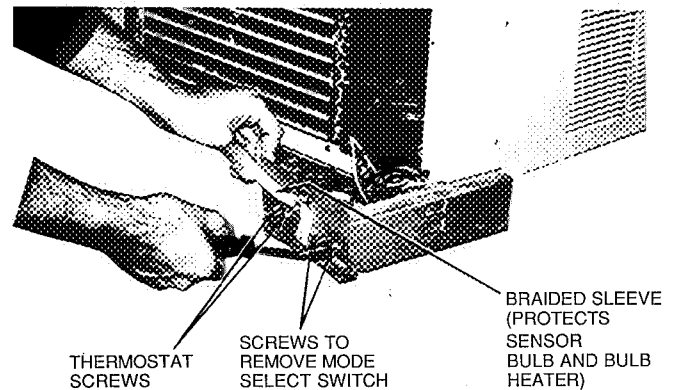

Fig. 11 – Removing Thermostat and Bulb Heater
2. Remove 2 screws holding mode switch control to control box. See Fig. 11.
2. Remove 2 screws securing thermostat to control. See Fig. 11.